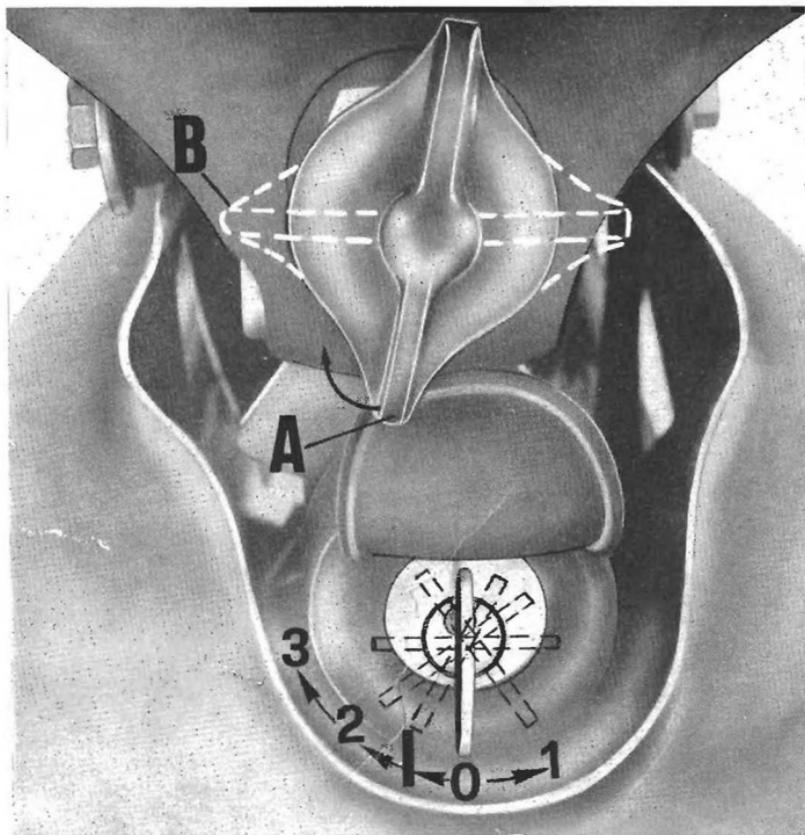

Fig. 7
(Fig. 7)
- the ignition key is on position «2» (Fig. 7);
When starting a hot engine there is no need to open the starter lever as this would richen the mixture and make starting difficult. If starting a hot engine gives some difficulty, it is well to open the throttle completely before pushing the starter button or turning the ignition key on the starting position (3 in fig. 7).
As soon as the machine stops, close the throttle, shift to neutral, turn the key on position « 1 » and remove it (fig. 7).